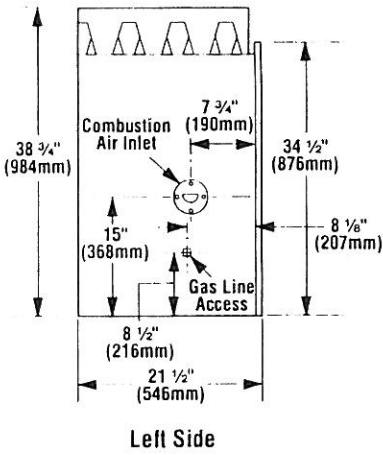

Figure 10
**Step 4.** Fireplace may be anchored to the floor. Bend down four (4) anchor tabs located at the base of the fireplace and secure to the floor by nailing with 8d nails (Figure 10).